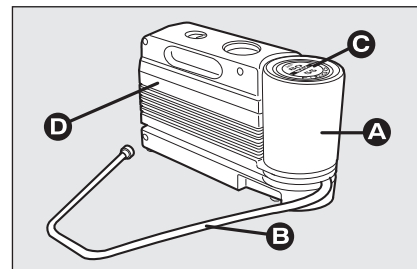

fig. 2
- ☐ bottle **A-fig. 2** containing sealer and fitted with:
- filling pipe **B-fig. 2**;
- sticker **C-fig. 2** bearing the notice “max. 80 km/h”, to be placed in a position visible to the driver (on the instrument panel) after fixing the tyre;
- ☐ compressor **D-fig. 2** including gauge and connections;